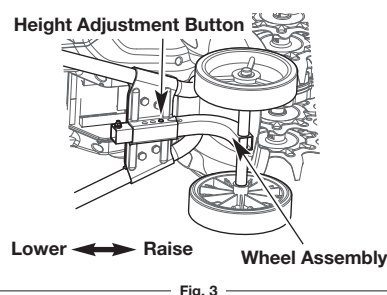

Fig. 3
1. Set the unit on its side (Fig. 3).
2. Press the height adjustment button inward and move the wheel assembly until the height adjustment button locks into the desired hole (Fig. 3).